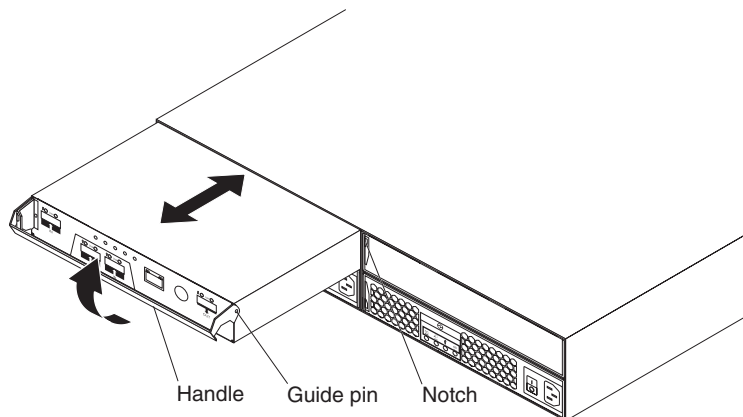

Figure 49. Removing and replacing a controller
- b. Slowly pull the handle away from the chassis to remove the controller from the bay, as shown in Figure 49.
- b. Make sure that the guide pins on the side of the controller fit into the notches on the DS3200 chassis. See Figure 49 on page 88.